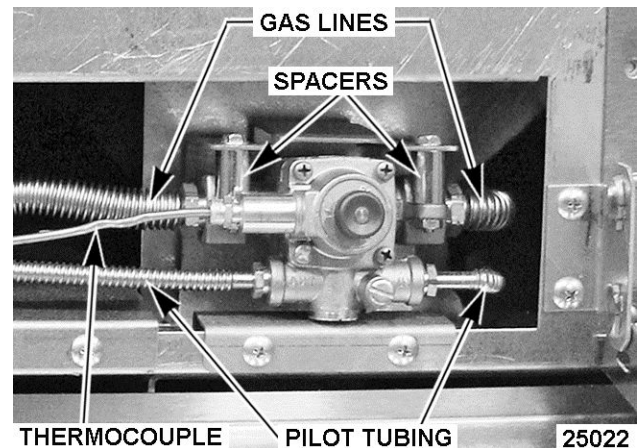

Fig. 37
**Gas Safety Valve on Standard 24" Oven Shown in Fig. 37**